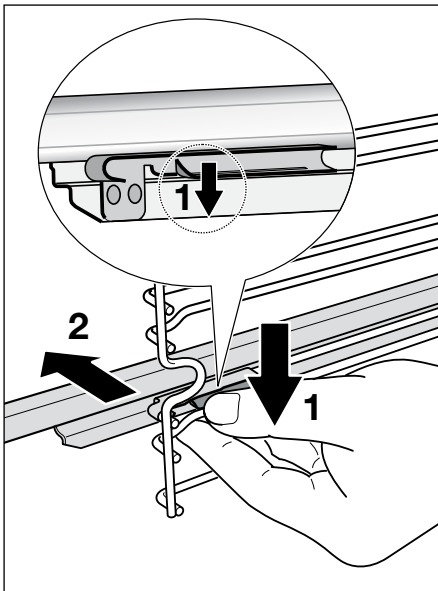

Fig.19 Removing the sliding shelf supports
- 3 Find the safety locks. These are the tabs that clip over the wire of the side rack (arrow 1 in Fig. 19).
- 4 Pull the safety locks away from the wire to release the wire (arrow 2 in Fig. 19).